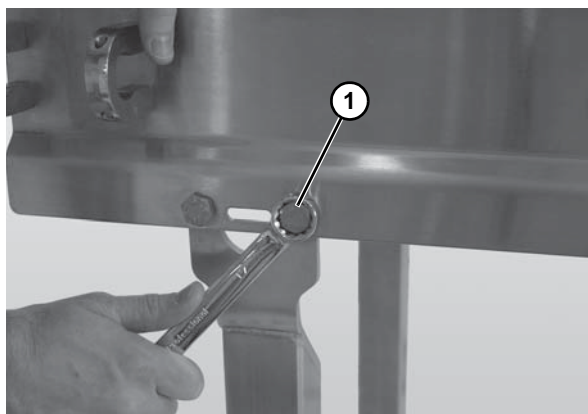

Figure 12
2. Attach the stands to the frame (**Figure 12, item 1**).